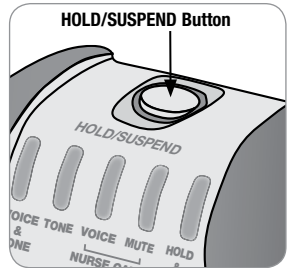
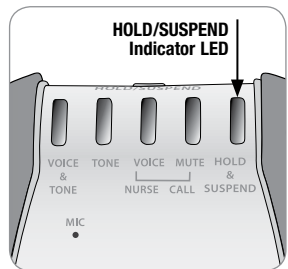

Fig. 17
Fig. 17a
1. Press **HOLD/SUSPEND** button on the top of alarm (Fig. 17) for 1 second. The **HOLD/SUSPEND LED** will begin flashing RED at 3-second intervals if the alarm is in HOLD mode (Fig. 17a). The green LED indicating mode will continue to flash, but the alarm is not monitoring.